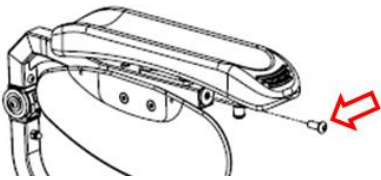

Figure 5.26
5.2.4.3 Use the Allen Key Wrench to loosen the screws. Remove the stopper A. Adjust the armrest forwards or backwards and re-tighten the screw. (Figure 5-26, Figure 5-27)